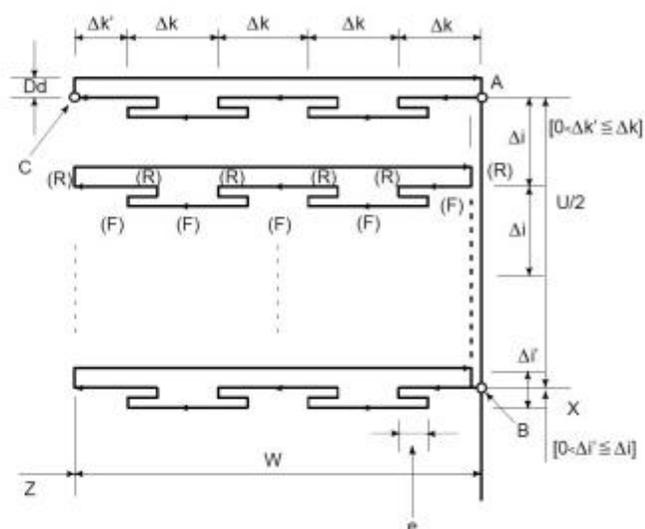

Fig3.9.11 Cutting Path in End Face Peck Drilling Cycle
The following program generates the cutting path shown in Fig3.9.11. Chip breaking is possible in this cycle as shown below. If X (U) and P are omitted, operation only in the Z axis results, to be used for drilling.
Execution process:(Fig3.9.11)